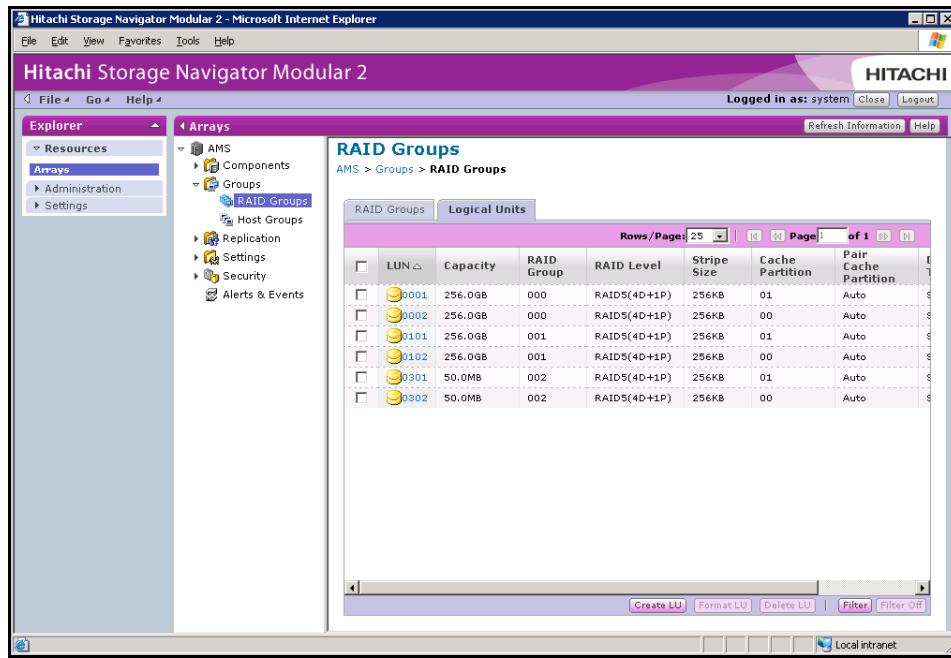

Figure 4-5: Example of Logical Units Tab
3. Click the **Logical Units** tab (Figure 4-5 on page 4-8). Then review the logical units, if any, that have been created. If necessary, use the **Create LU** button to create more logical units. For more information, refer to the Navigator 2 online help.